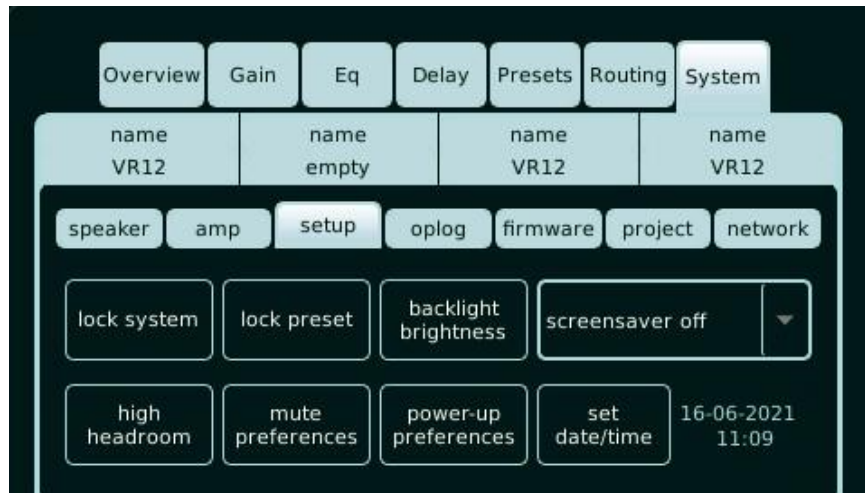

Fig 23. Set-up menu with setting options
7.7.3 Setup - In this section, different system functionalities can be set, like system lock, screensaver function (the “eye”), date/time and mute-setting options. (see fig.23)
With pressing this button, the QWERTY keyboard pops-up, to enter a password code; Confirm code and the active tab switches to Overview tab, with which all tabs are locked and only the Mute buttons can be operated. (see fig.23)
With pressing this button, the QWERTY keyboard pops-up, to enter a password code; Confirm code and the active tab switches to Overview tab, with which System tab and the Preset tab are locked. (see fig.23) To unlock, touch any locked tab and the QWERTY keyboard will pop-up, asking for password.